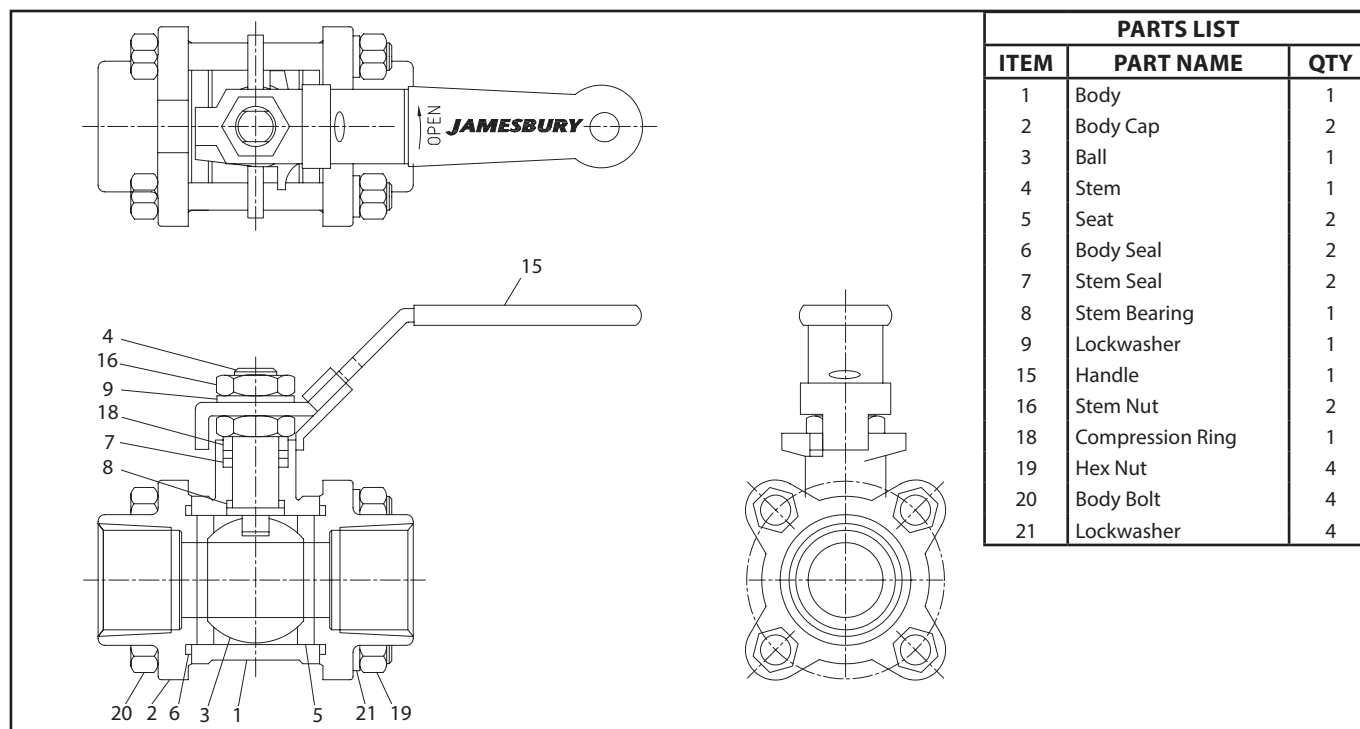

Figure 6
Although Metso's *Jamesbury* valves are designed to work under severe conditions, proper preventative maintenance can significantly help to prevent unplanned downtime and in real terms reduce the total cost of ownership. Metso recommends inspecting valves at least every five (5) years. The inspection and maintenance frequency depends on the actual application and process condition. Routine maintenance consists of tightening the stem nuts (16) in (**Figure 6**) 1/4 turn periodically to compensate for stem seal wear. The valve should be fully closed during the tightening. **CAUTION:** Tightening hex nuts (16) too severely will shorten the life of the shaft seals.
- c. From **Figure 6**, the ballooned part number, part name and quantity required.